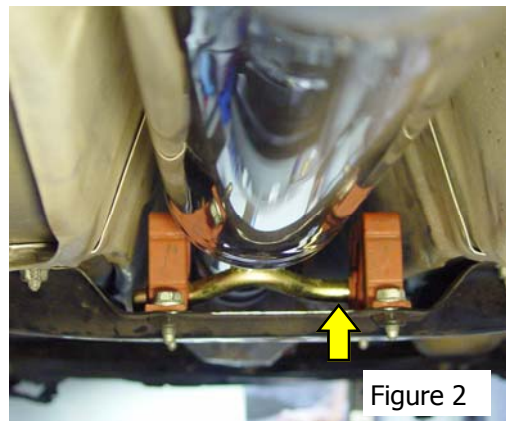

Figure 2
4. When installing the midpipe, leave the front locating clamp loose until all adjustments have been completed. Note that the clamp installs with the longer post on the passenger side of the car (at arrow in Figure 2).